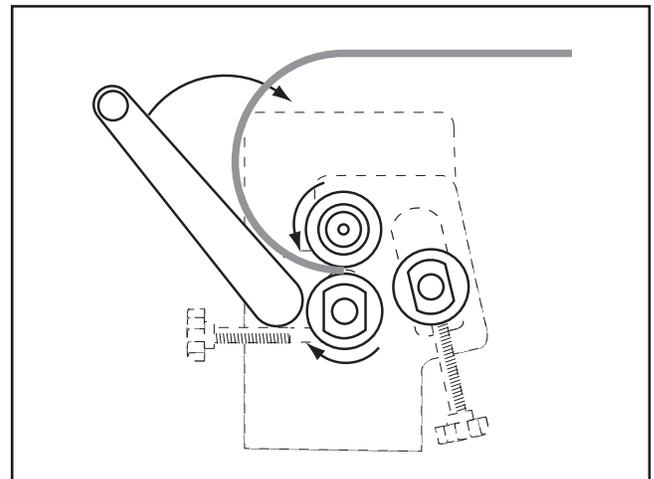

Figure 25. Re-inserting the workpiece.
- Rotate the workpiece 180°, insert the curved end into the slip roll, then process the workpiece through the machine, as shown in **Figures 25 and 26**.